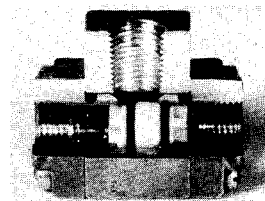

FIGURE 8-4. – SHUTTLE VALVE
Shuttle Valve (Figure 8-4) — Also known as a double check valve, the shuttle valve is a device which will take two (2) supply signals and allow the one with the highest pressure to pass through. The shuttle valve is used in the Low Demand control system with reservoir blowdown to allow the control to work from both the oil reservoir and the plant air system side of check valve.